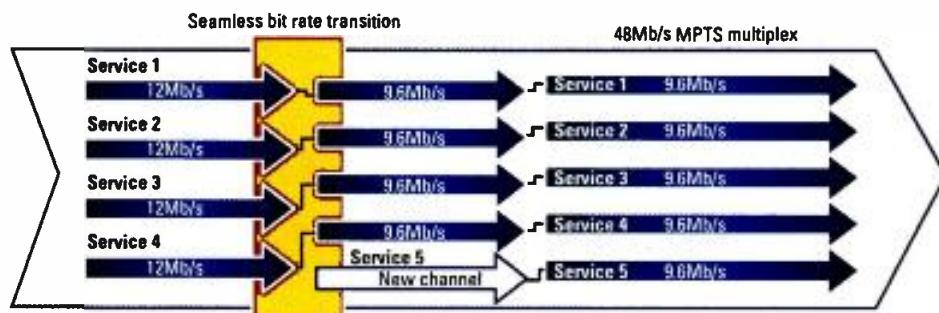

Figure 1. Example of a 48Mb/s multiplex of four services being modified to five services
- Once the four original encoders have been set to their new output bit rates, the operator can enable the fifth encoder to stream to the multiplexer. (See Figure 1.)